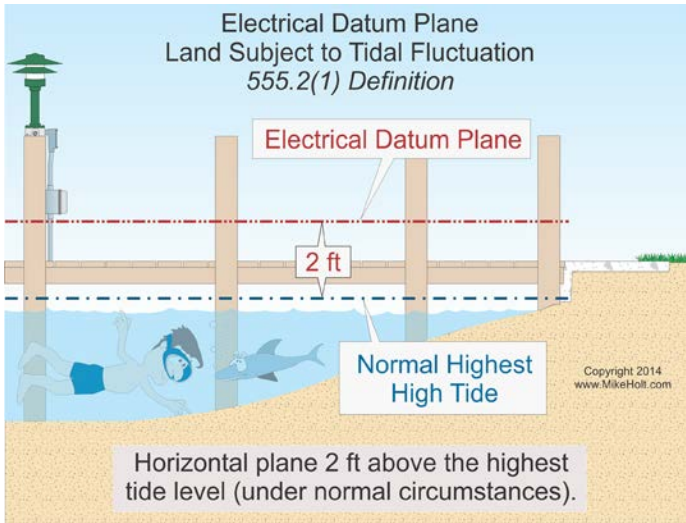

Figure 555-2
(1) Land Area Subject to Tidal Fluctuation. The horizontal plane 2 ft above the highest high tide that occurs under normal circumstances. Figure 555-2